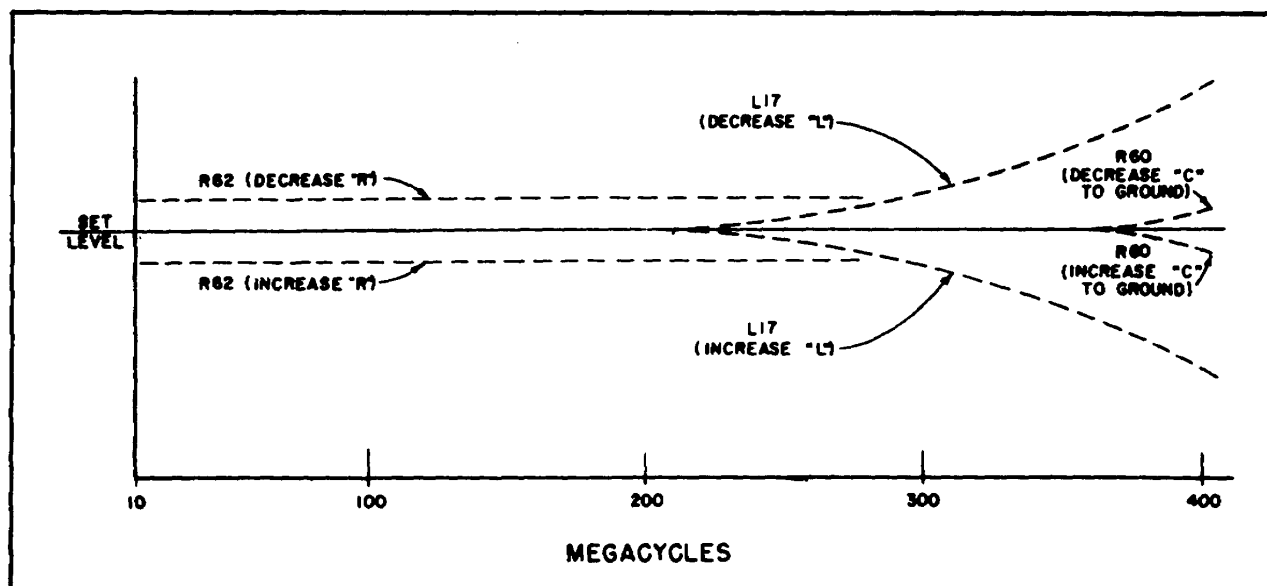

Figure 6-8. Graph Showing Effects of Adjustments on R-F Power Monitor Circuits
k. To adjust the power monitor frequency response at frequencies above approximately 350 megacycles, adjust the distance between R60 and ground to increase or decrease the capacity to ground. (See graph in Figure 6-8 for the effects of this adjustment.)
l. To adjust the power monitor frequency response at frequencies between approximately 250 and 350 megacycles, adjust the inductance of L17 by shortening to increase "L" and lengthening to decrease "L". (See graph in Figure 6-8 for the effects of this adjustment.)